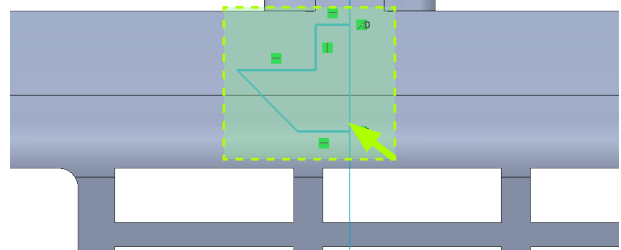

Fig. 92
Step 7. **Ctrl drag** a selection to **select lines and Ctrl click Plane1**, **Fig. 92**.